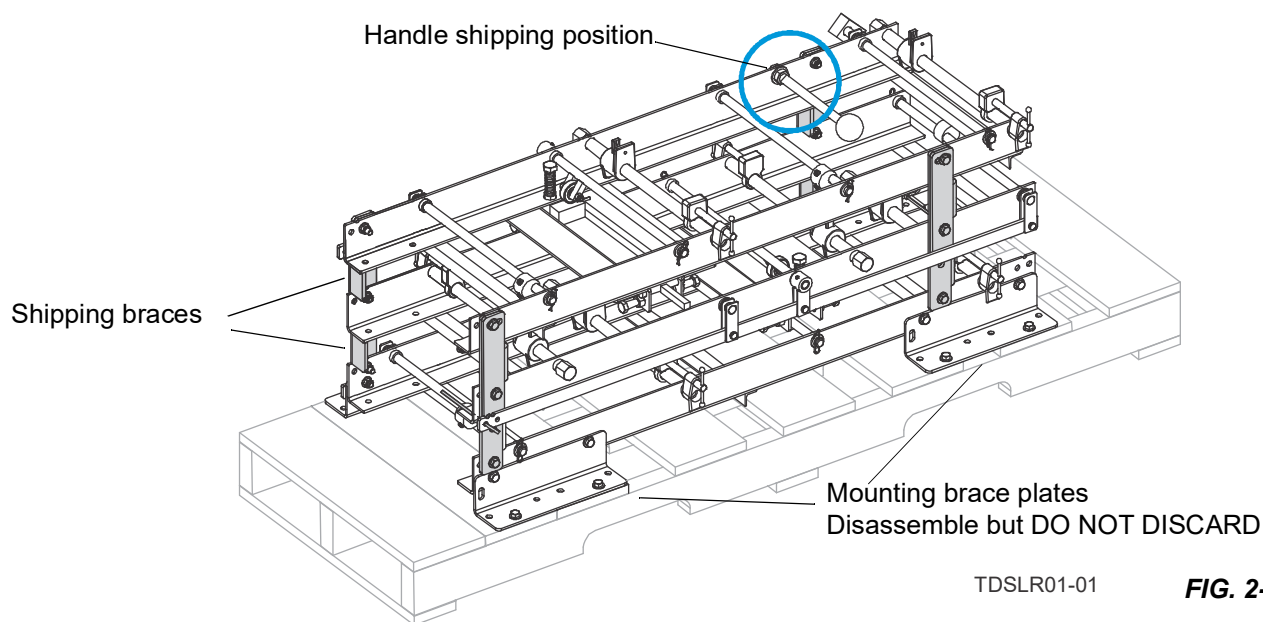

FIG. 2-1
1. Uncrate the SLR; discard the shipping braces (total 8) and fasteners. See FIG. 2-1.